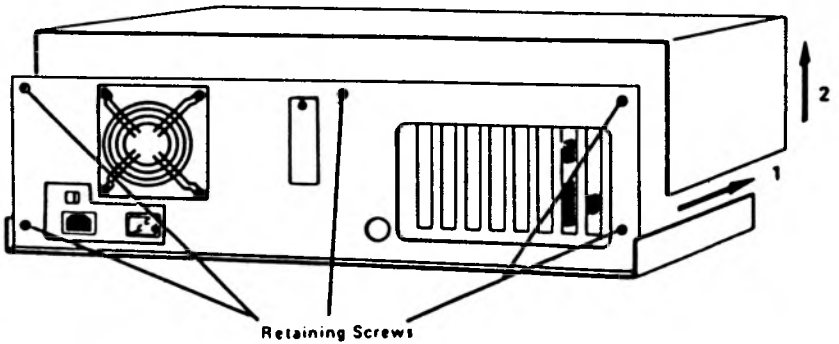

Figure 4
6. Pull off the back cover, remove the five cabinet retaining screws as shown in Figure 4 Slide the cabinet top forward slightly and lift it off.